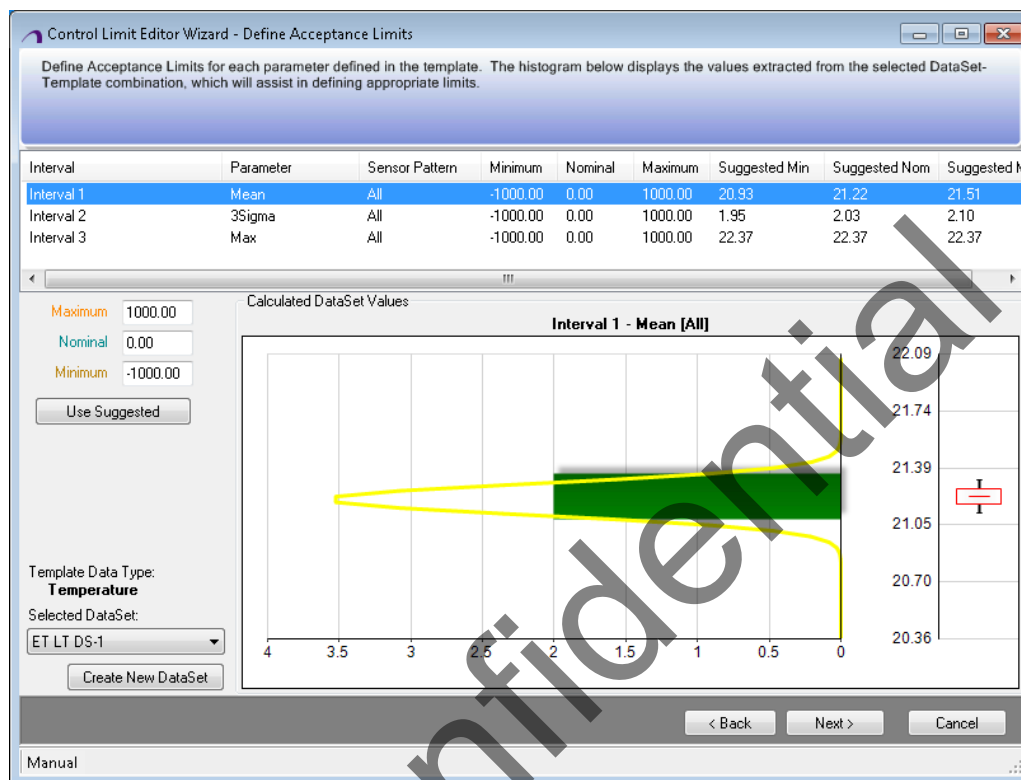

Figure 6-7 Control Limit Editor Wizard - Define Acceptance Limits window
- Select the required template from the **Available Templates** list, for which the control limit is to be created. Click the **Next >** button, you can see the **Control Limit Editor Wizard - Define Acceptance Limits** window opens, as shown in Figure 6-7.